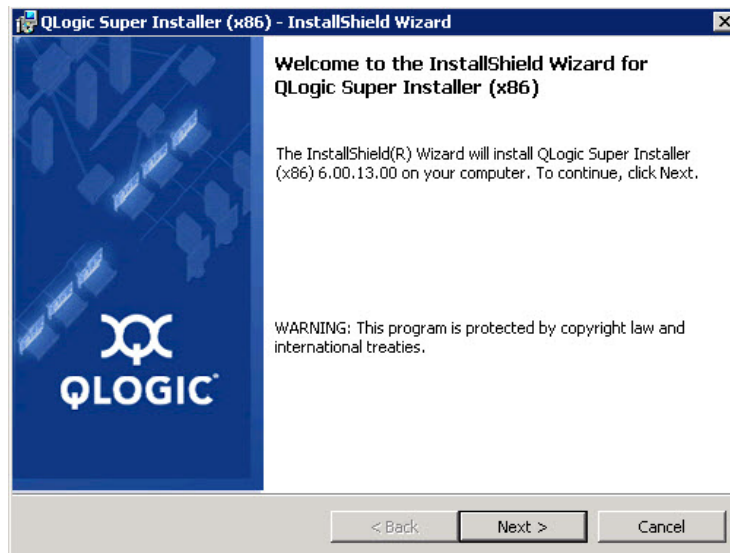

Figure 2-2. QLogic InstallShield Wizard: Welcome Window
3. In the QLogic Super Installer—InstallShield® Wizard's Welcome window (Figure 2-2), click **Next**.